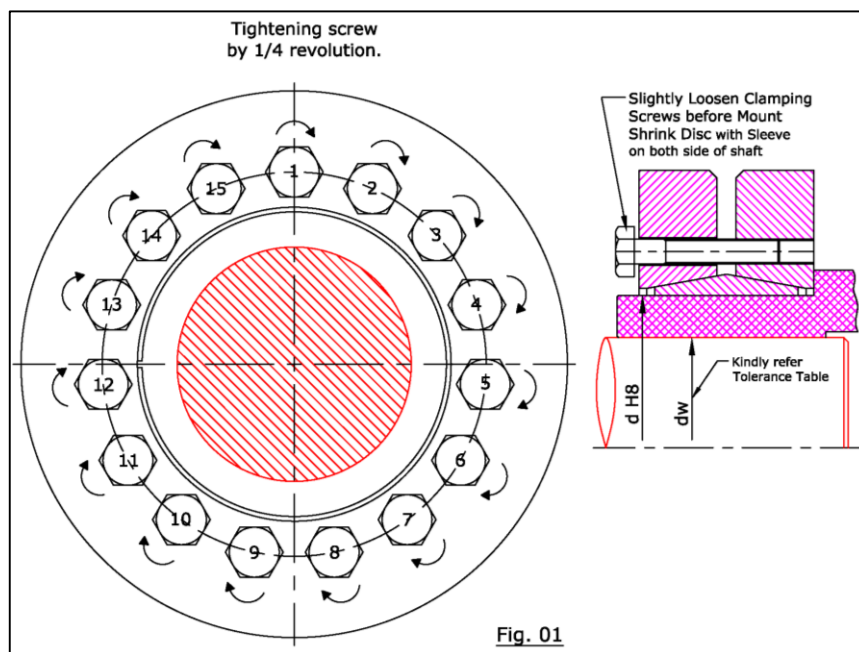

Fig. 01
- Once the axial position of shrink disc is fixed then tighten all screw by hand untill screw head face touch to side face of Shrink disc. Start tighten all screws one by one in diametrically circular sequence by using torque wrench (As shown in Fig.01).